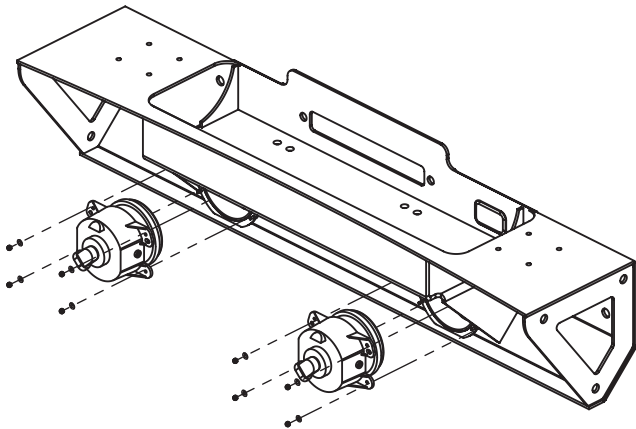
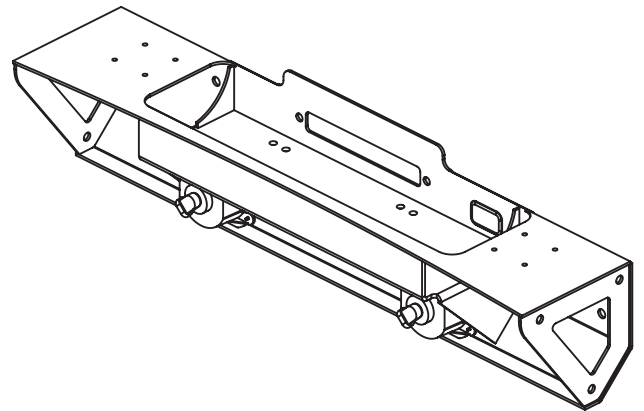

Figure 2a
Figure 2b
2. Install the original fog lights into the Center Section from the back (Figure 2a). Use the (8) M3 lock nuts and M3 washers to secure them (Figure 2b).